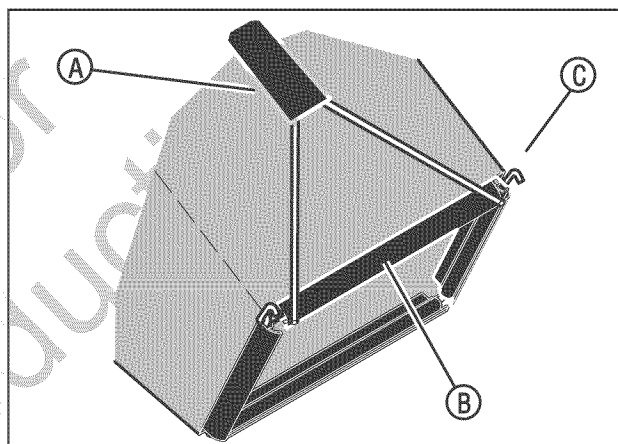

Figure 6: Installing the bag clips
2. Make sure the handle (A, Figure 6) is on the outside of the grass bag.
3. First, attach the clips (B, Figure 6) to the side of the frame assembly (C). Next, attach the clips to the top and bottom of the frame assembly.